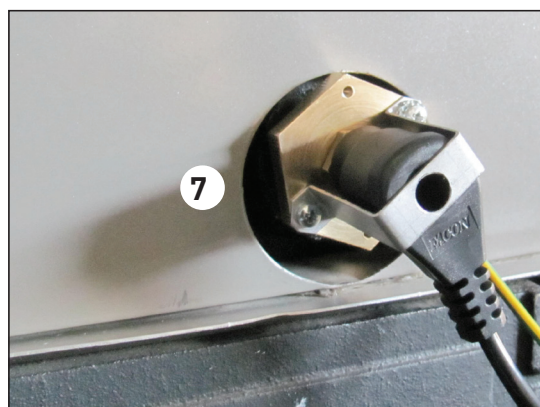

Fig. 12 Safety thermostat connector
B) Connect the safety thermostat connector (7 fig. 12) the seven-pin plug (see WIRING DIAGRAM)